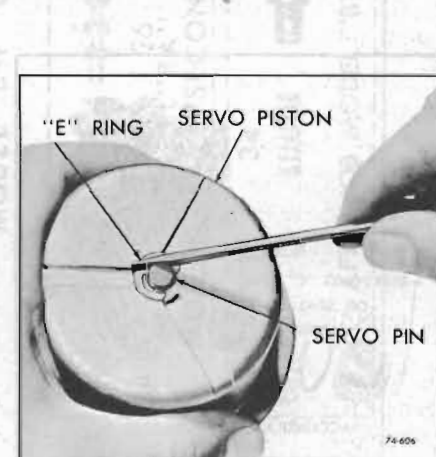

Figure 74-606
2. Install band apply pin retainer, spring and washer, into bore of servo piston and secure with "E" ring. See Figure 74-606.